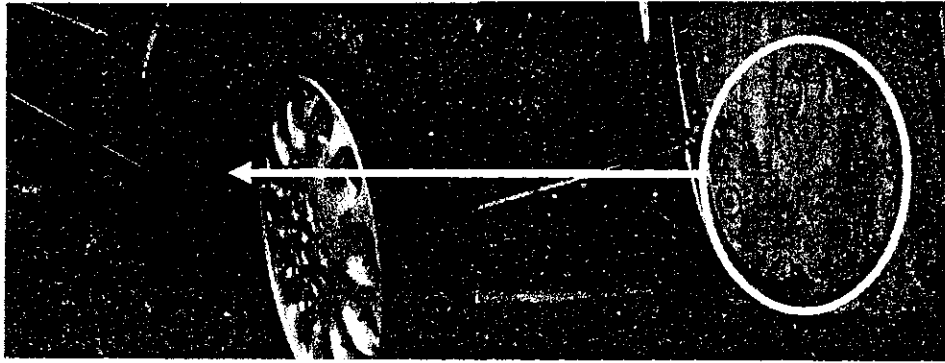

Figure 1
2. Detach fender liner in area indicated and press to one side with assembly wedge (figure 1).